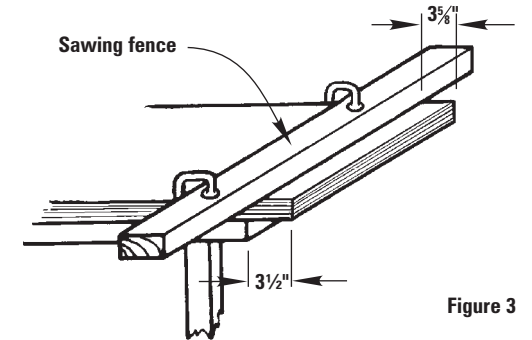

Figure 3
2. Position edge of the panel to be cut so that it extends approximately 3 1/2" from the table edge, and parallel to the table edge (See Figure 3).
parallel to the proposed cut, $3\frac{3}{8}$ " from and parallel to the panel edge. Clamp the fence securely to the top of the panel with the clamps on the side of the fence away from the cut (See Figure 3). Narrower fences may require a temporary nail or screw in the center of the fence to prevent flexing during the sawing operation.